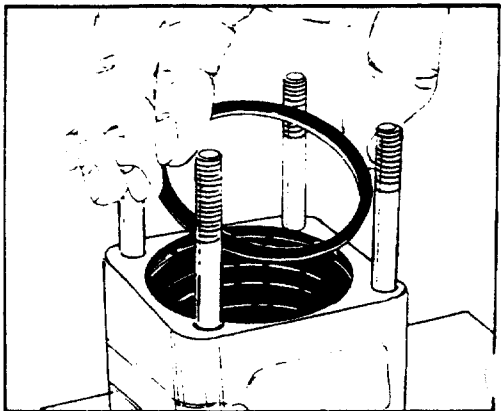

FIGURE 70.
23. Place the bearing spacer (27) onto the face of the upper cover plate (32). See figure 70.